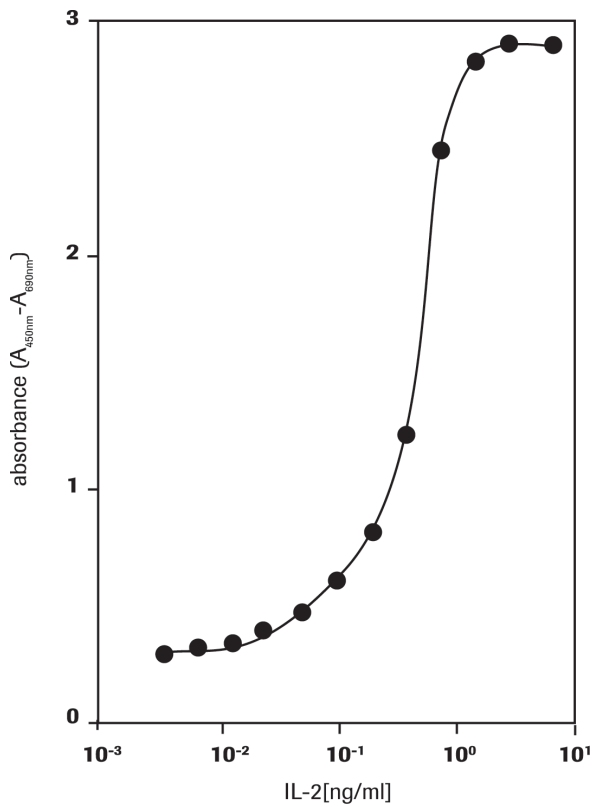

Fig. 1: Measurement of proliferation of CTLL-2 cells in response to human IL-2.
- Measurement of cell proliferation in response to growth factors, cytokines, mitogens, and nutrients (Fig. 1).
For the determination of the activity of human Interleukin-2 (IL-2) on the mouse T-cell line CTLL-2, see Figure 1, section, **Application**.